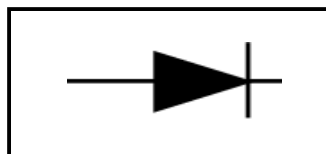

FIGURE 4.13
4.13 Identify the symbol shown in FIGURE 4.13 below.